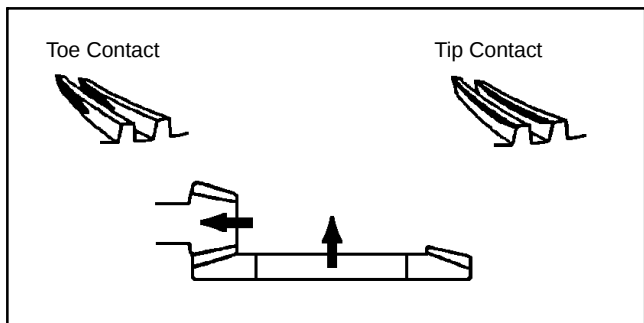

Figure 93
2. If contact is toward the toe or tip of the gear (Fig. 93):